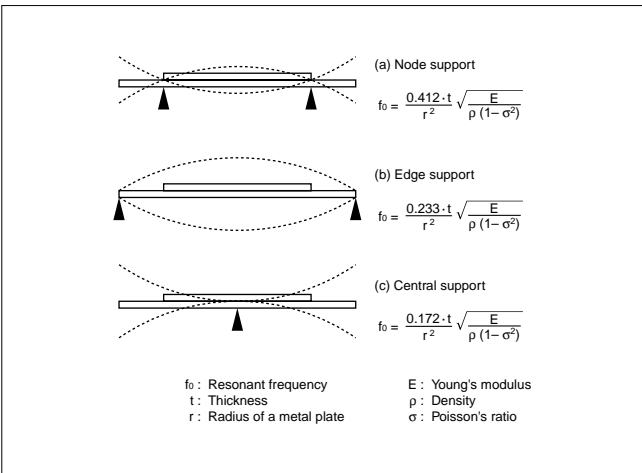
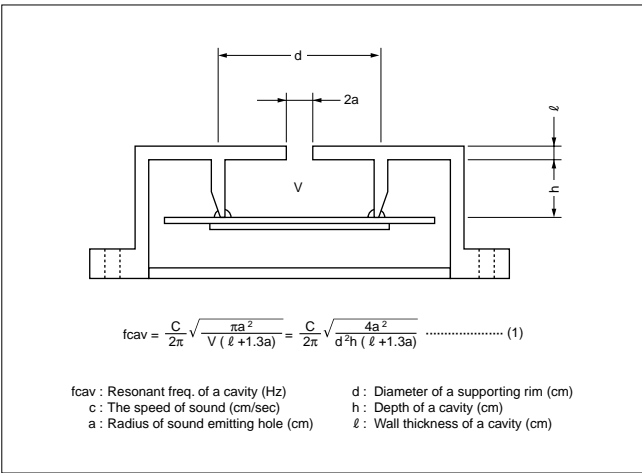

Fig. 3 Supporting Method
Fig. 4 Sectional View of a Cavity
In general, man's audible frequency range is about 20 Hz to 20kHz. Frequency ranges of 2kHz to 4kHz are most easily heard. For this reason, most piezoelectric sound components are used in this frequency range, and the resonant frequency ( $f_0$ ) is generally selected in the same range too. As shown in Fig. 3, the resonant frequency depends on methods used to support the piezoelectric diaphragm. If piezoelectric diaphragms are of the same shape, their values will become smaller in the order of (a), (b) and (c). In general, the piezoelectric diaphragm is installed in a cavity to produce high sound pressure (Fig. 4). The resonant frequency ( $f_{cav}$ ) of the cavity in Fig. 4 is obtained from Formula (1) (Helmholtz's Formula). Since the piezoelectric diaphragm and cavity have proper resonant frequencies, ( $f_0$ ) and ( $f_{cav}$ ) respectively, sound pressure in specific frequencies can be increased and a specific bandwidth can be provided by controlling both positions.
Fig. 9 shows a typical application of the self drive method. The piezoelectric diaphragm provided with feedback electrode shown in Fig. 9 (i) is involved in the closed loop of a Hartley types oscillation circuit. When the frequency is closed to the resonant frequency, the circuit satisfies oscillating conditions, and the piezoelectric diaphragm is driven with the oscillating frequency. Fig. 9 (ii) shows a simple oscillating circuit consisting of one transistor and three resistors. In general, the node support shown in Fig. 3 (a) is popular in the self drive method. Proper resonance of the piezoelectric diaphragm by the node support provides stable oscillation with high mechanical Qm of vibration but also a single high pressure tone.
In addition to the previous methods based on the electrical circuit, it is also possible for Piezoelectric sound components to raise up S.P.L. by using a resonant cavity based on Helmholtz's Formula in Fig. 4 of Page 3. Concerning these items, please feel free to contact the sales division.